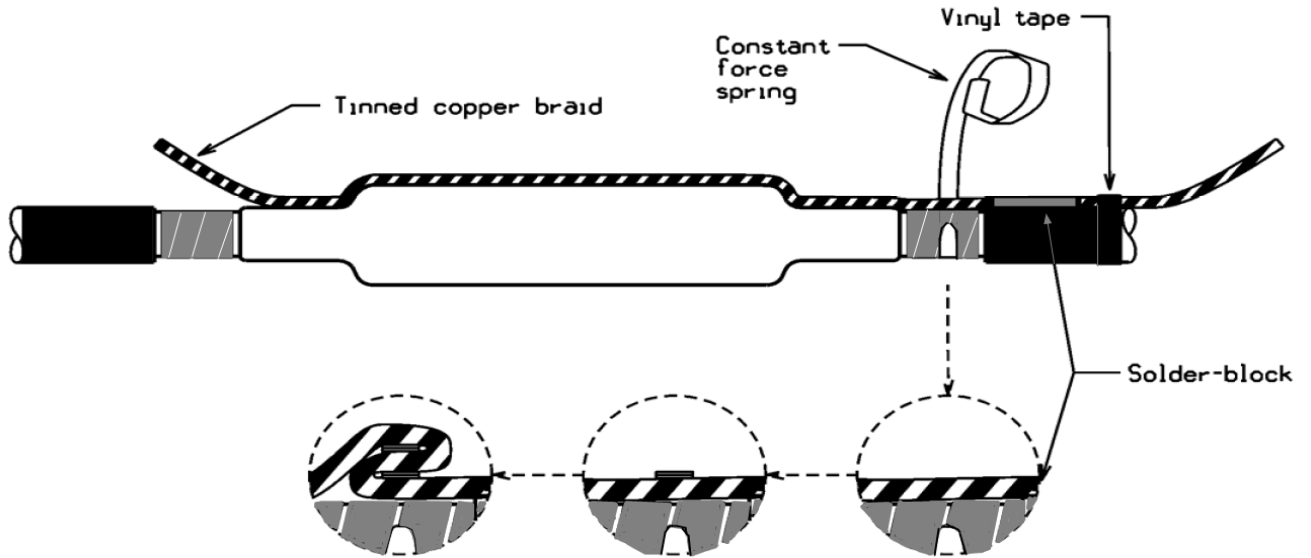

Figure 14
- Lay one #2 tinned copper braid, provided with the splice or in grounding kit Std. Item UR89G_, along the splice and connect it to the cable metallic shield on both sides of the cable with spring clamps (Std. Item US1_). Start on the side of the cable where the braid exits the splice and where it will be connected to the system ground. Make sure braid contacts the copper mesh and secure with spring clamp afterwards. The solder/moisture block should be placed on this side. Make sure to locate the solder block on the jacket area beyond the jacket's edge. Vinyl tape (Std. Item T2W1) may be used to secure the braid to the splice to aid handling. See section 36.8 for proper installation of braid and spring clamp. Refer to Figure 14